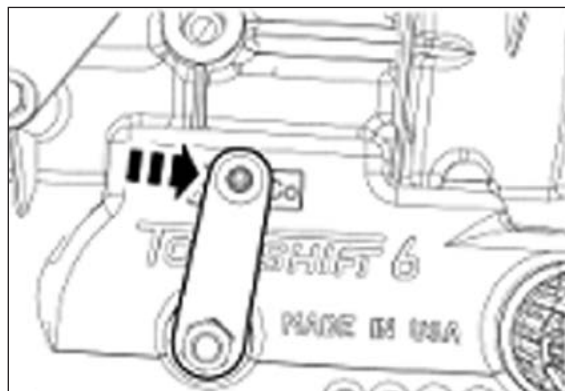

Figure 88
6. Move the manual control lever all the way forward into the LOW position, then move it 3 detents rearward (**Fig. 88**).